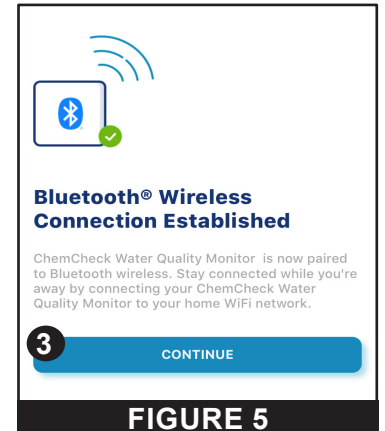

FIGURE 5
5. The Bluetooth Pairing screen will display (**Figure 5**). Ensure *Bluetooth*® wireless technology is enabled on your smart device and press CONTINUE (3).